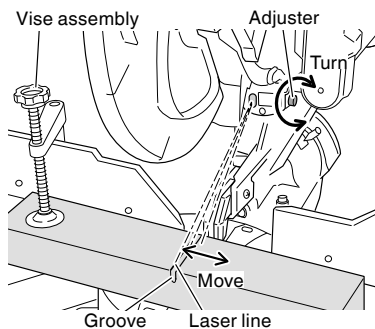

Fig. 20
- (1) Light up the laser marker and make a groove of about  $3/16$ " (5 mm) deep on the workpiece that is about  $25/32$ " (20 mm) in height and  $5-29/32$ " (150 mm) in width. Hold the grooved workpiece by vise as it is and do not move it. For grooving work, refer to "13. Groove cutting procedures" on page 33.
- (2) Then, turn the adjuster and shift the laser line. (If you turn the adjuster clockwise, the laser line will shift to the right and if you turn it counterclockwise, the laser line will shift to the left.) When you work with the ink line aligned with the left side of the saw blade, align the laser line with the left end of the groove. (Fig. 20) When you align it with the right side of the saw blade, align the laser line with the right side of the groove.